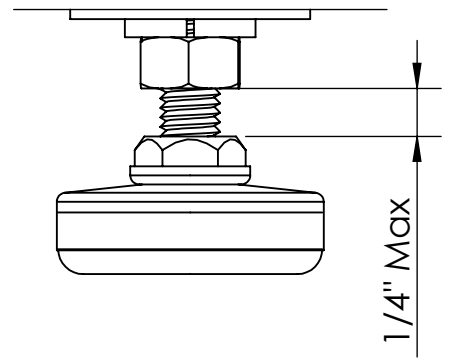

Fig.3
6. Maximum of 1/4" space between hex nut and Glide nut (Fig.3).